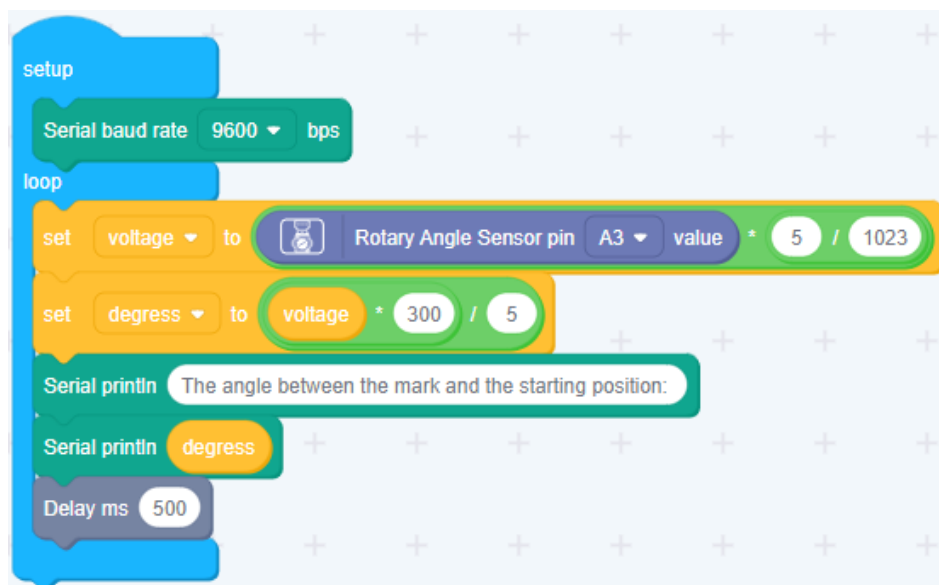

Figure 8.6: Codecraft Rotary Angle Sensor Setup
27. Set up the Codecraft workspace as shown in Figure 8.6.